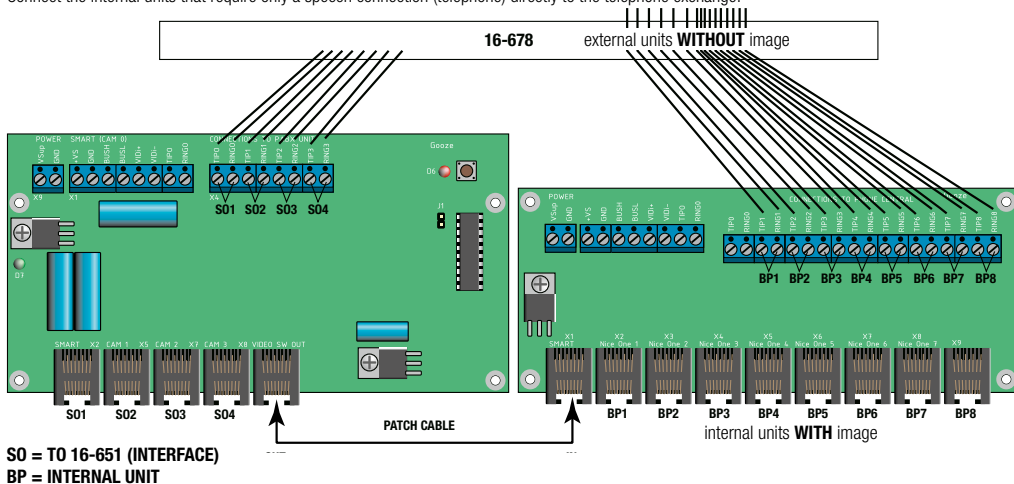

fig.1: switcher printed board (left) an splitter printed board (right) inside the video switcher 16-676-01
- Connect the supplied patch cable with the RJ45 connectors as in fig. 1.
Unplug the plug before installing the appliance. The rear of the video switcher has openings for inserting the cable with telephone lines. Connect the analog telephone line to the connector block in the video switcher (fig.1). The connections TIPO and RINGO,..., TIP3 and RING3 of the left printed board are connections for the telephone lines to which the interfaces (inputs S01, S02, S03 and S04) are connected.
If an interface (external unit with camera) or a camera interface (external camera) is connected to one of the interface input terminals (fig.1, S01, S02, S03 or S04), the image of one of the cameras can be displayed on all programmed internal units. Program the addressable video signal via the interface (see user manual 16-651).